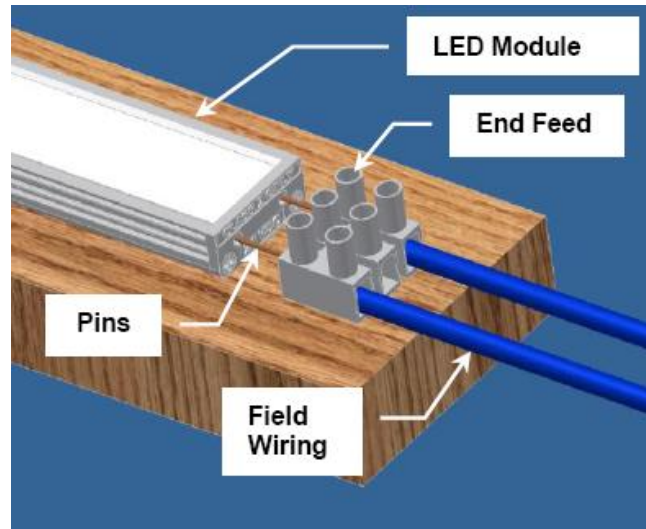

Figure 6. CVLEF End Feed and Module Installed.
11. For cove lighting applications use a CVLEF End Feed assembly as shown on Figure 6. Install the CVLEF terminal block and secure with two #4 x 3/4 Philips screws (provided). Connect the End Feed with the first module using provided rigid pins (as show) or with provided 18AWG end feed wire. (*Use only the 18AWG top coat stranded wire. Do not substitute the wire type.*) Install a protective cover (not shown) over the end-feed connector, and secure it with the two enclosed #4 x 3/8 flat head screws.